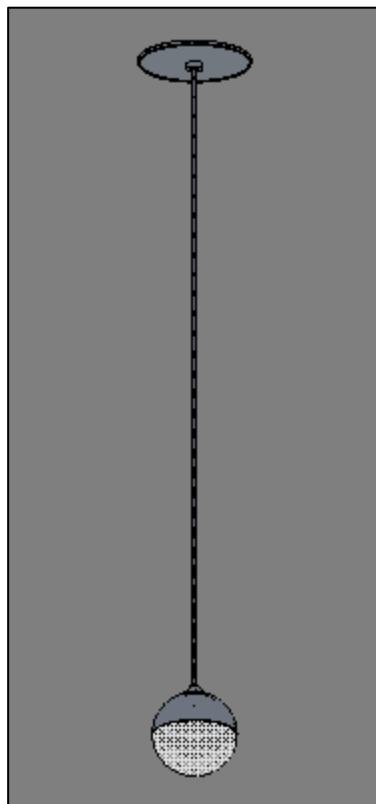
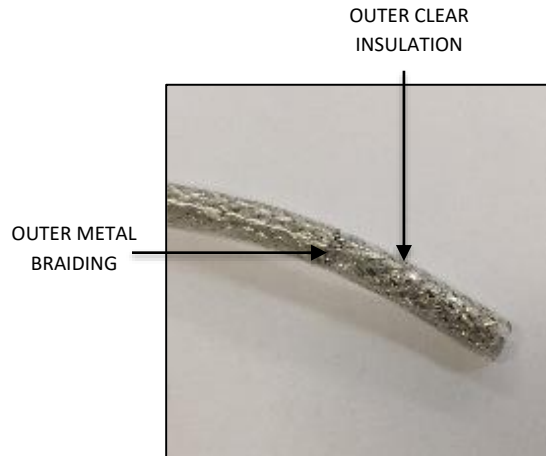

FIG. 21 – COMPLETED INSTALLATION OF GLOWBALL PENDANT WITH
FIG. 22
2. Strip off about 7/16" of insulation from the inside wires and twist inner strands of each wire together as shown in FIG. 21 below. Connect the cord wires to the wires from the decoder as shown below. The internal cord wires are labeled as shown in the table below as shown in FIG. 22 below.